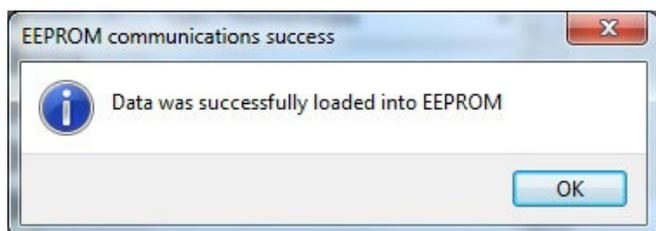

Figure 37. Message Showing Successful Load into EEPROM
- 3) Load the configuration into EEPROM: Go to “Configuration” → “EEPROM” → “Load into EEPROM.” The message in Figure 37 appears if everything worked correctly.